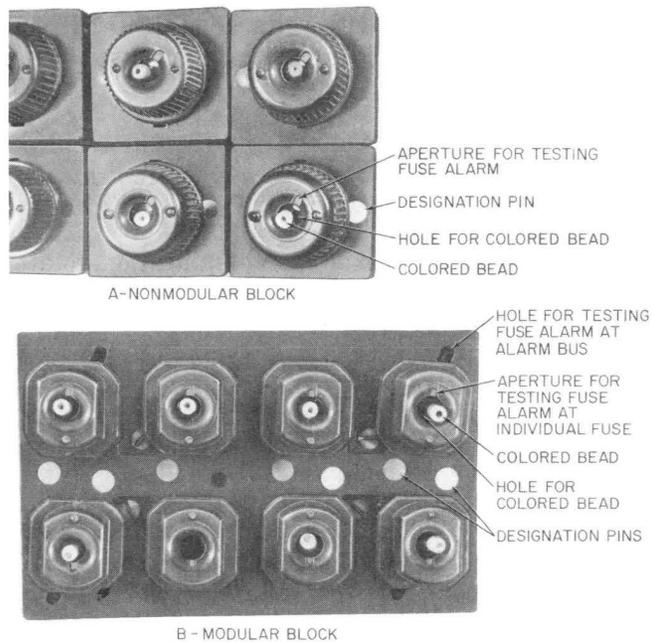

Fig. 13—Typical 70-Type Fuse Cap
**Note:** The later design of fuse caps for 70-type fuses contains an aperture or slot adjacent to the hole for the colored bead, providing access to the alarm test point (Fig. 13). The new P-344900 fuse cap assembly is for use on nonmodular fuse blocks (18A, 19A, and 21A) and the P-11F667 fuse cap assembly is for use on modular fuse blocks (22- through 27-type). This style cap should be used when testing fuse alarm.
- (4) At the RB1 fuse, touch the tip of the 411C test pick to the exposed test point on the fuse cap (Fig. 13).